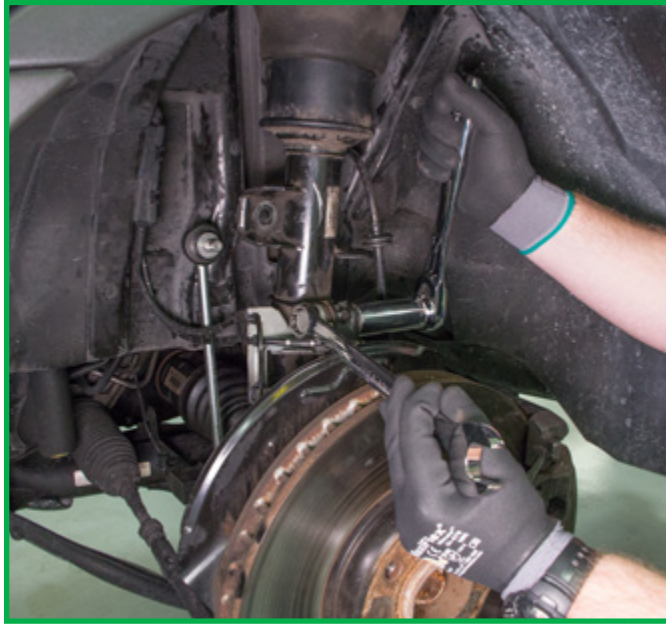

FIGURE 4
7. Remove the two (2) large bolts and nuts that hold the strut to the spindle assembly. (Figure 4)